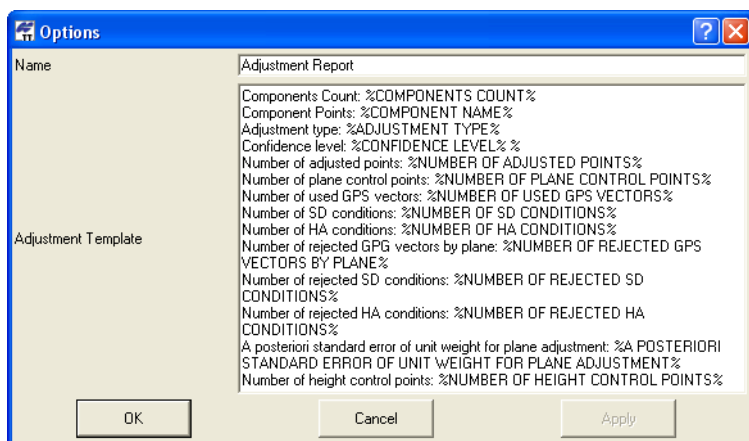

Figure 7-34. Item Options – Adjustment Report
- Adjustment Report – edit the name, type template items in the same manner as displayed on screen or delete template items, then click **OK** (Figure 7-34).